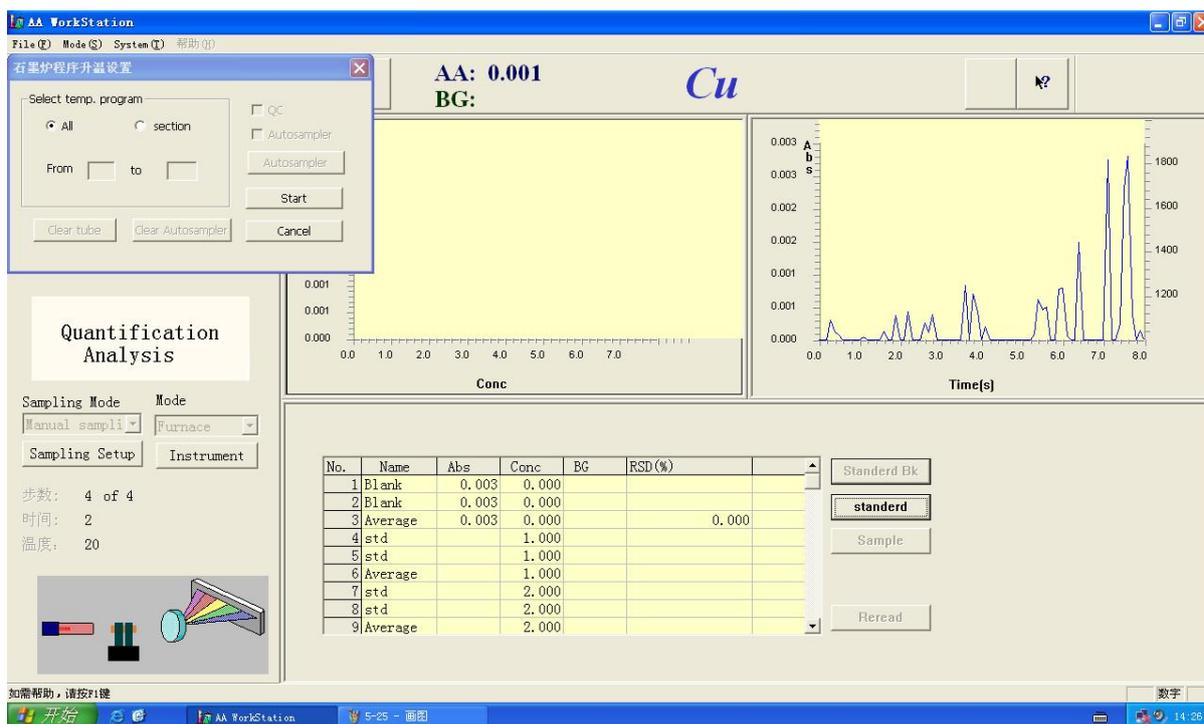

Figure 5-26
18. Press 【Start】 again,start the second sampling,Figure 5-26